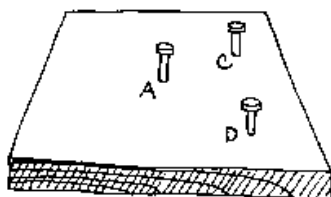
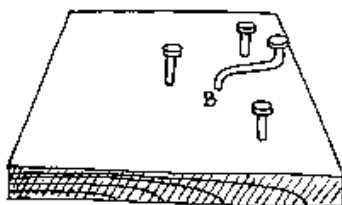
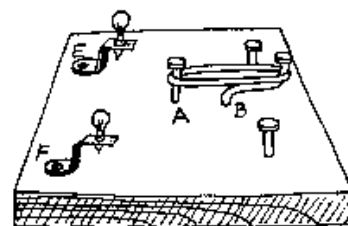

Figure 3
Figure 4
Figure 5
- Pound the 1" nails  $\frac{1}{2}$  inch into the board at points A, C, and D (*figure 3*). Use the 3" nail to make a hole  $\frac{1}{2}$ " deep at point B. Put the crank nail in this hole and pound it a little farther (*figure 4*). Attach the lamp socket brackets at points E and F. Stretch the rubber band as shown in *figure 5*.